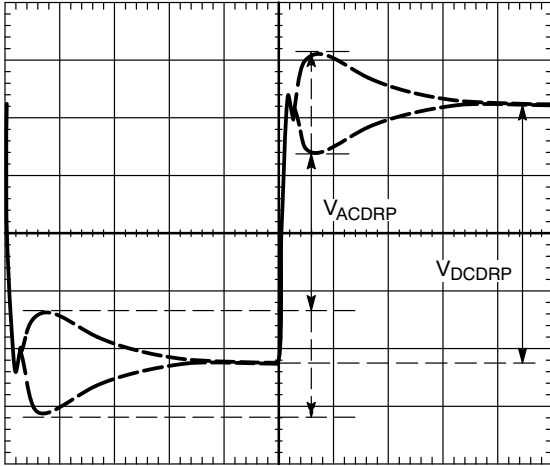

Figure 16. AC Load Line Waveform
- Measure the output waveform (use dc offset on scope to see the waveform). Try to use a vertical scale of 100 mV/div or finer. This waveform should look similar to Figure 16.
- Use the horizontal cursors to measure V_{ACDRP} and V_{DCDRP} as shown in Figure 16. Do not measure the undershoot or overshoot that happens immediately after this step.